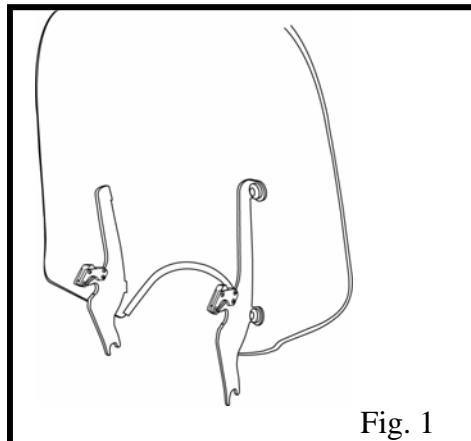

Fig. 1
2. Install the windshield mounting plates onto the windshield, using the bolts that are pre-assembled on the mounting plates. The Santoprene grommets should be inserted through the holes in the windshield so that the flat round part of the grommet lies flat on each side of the plastic. (see Figure 1) *Tabs face out away from the headlight when installed correctly.* (see fig. 1)